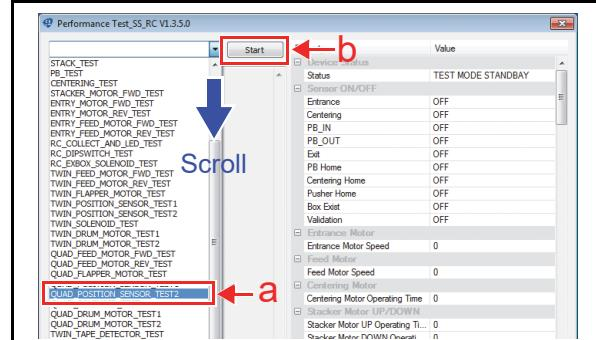

**Figure 6-61 Note Position Sensor 4 -6 Test 3**
7. Confirm the “ON/OFF” indication (Detected/NOT Detected) appeared in the “RC-Position sensor 1 (RC-Quad)” area (Figure 6-61 a).
8. Click the “Stop” Screen Button (Figure 6-61 b) to end the test.